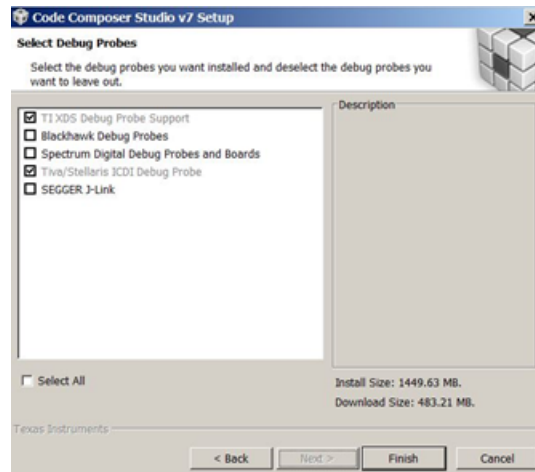

Figure 32. CCS Setup – XDS Installation
- To use a debug probe, select TI XDS Debug Probe Support as shown in Figure 32.